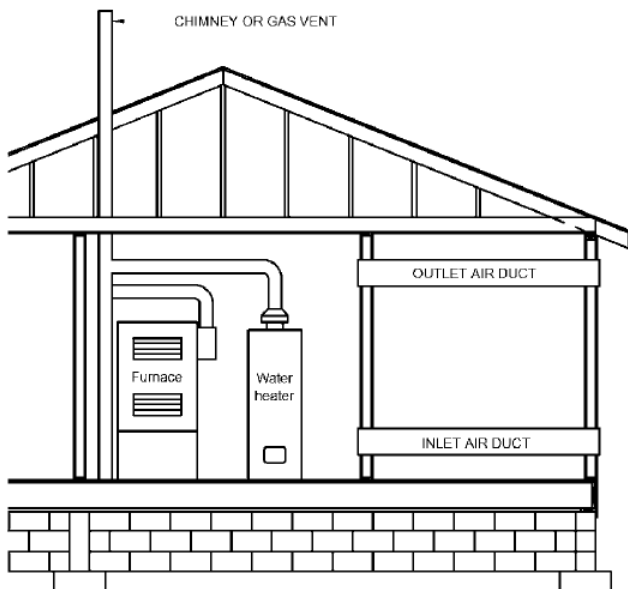

Figure 9: Air from Outdoors Horizontally
- 2) Horizontal (1-2,000). When communicating with the outdoors through horizontal ducts, each opening shall have a minimum free area of not less than 1 square inch per 2,000 Btu per hour of the total input rating of all equipment in the enclosure. (See **Figure 9**)